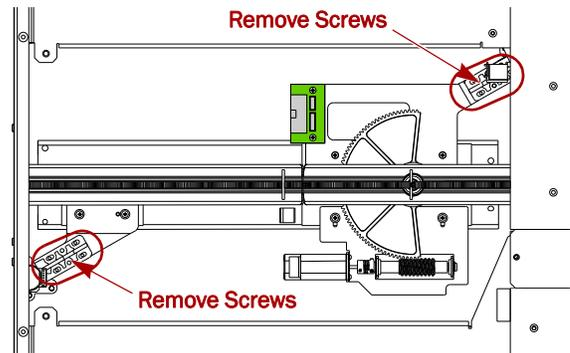

Figure 5. Remove the Z-Axis Screws
3. Remove the eight M3x20mm screws and washers (Figure 5) securing the two Z-Axis assemblies to the track plate.